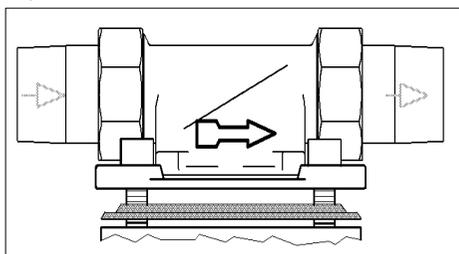

Fig. 1: Built-in rotary flange
- Direction of flow (see Fig. 1)
The built-in rotary flange must be installed in the direction of flow. This is marked by a cast in arrow (see Fig. 1).